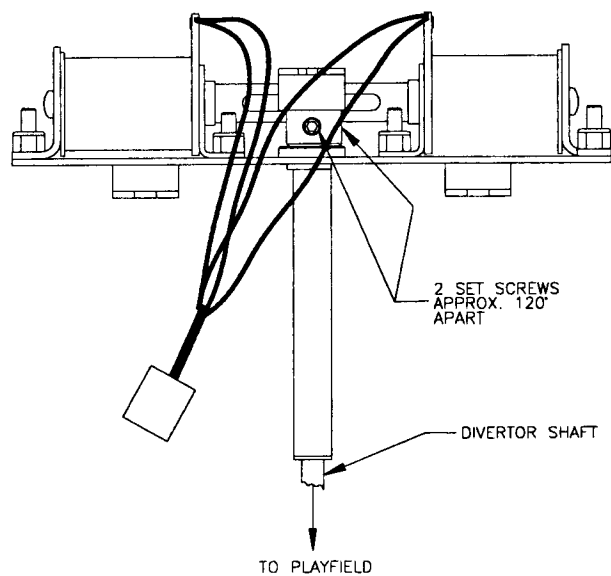

Fig. 11
- c. Unscrew set-screws (2 places) using a 3/32 Hex Allen wrench, until diverter shaft can drop through top of playfield. (See Fig. 11)